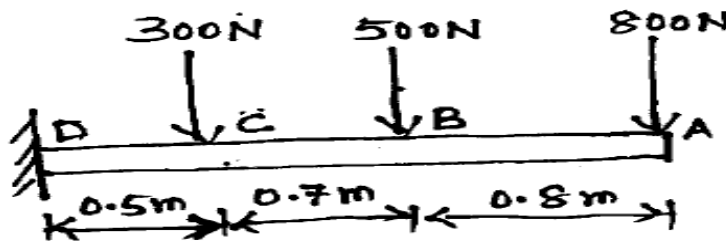

Fig. Q 5(b)
b. A cantilever beam of length 2 m carries point loads as shown in Fig. Q 5(b). Draw the shear force and bending moment diagrams for the beam. 12 (2 :3: 1.7.1)